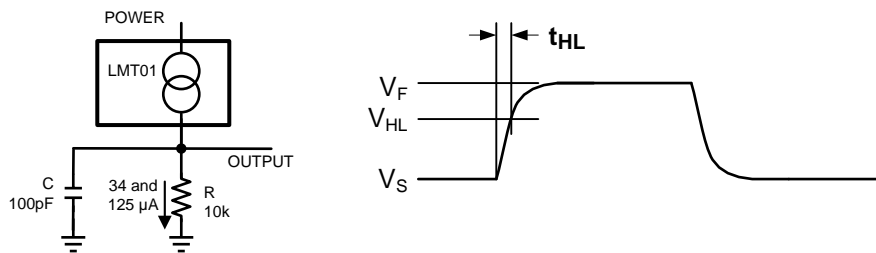

Figure 19. Simple RC Model for Rise and Fall Times
Stray capacitance can be introduced when connecting the LMT01-Q1 through a long wire. This stray capacitance will influence the signal rise and fall times. The wire inductance has negligible effect on the AC signal integrity. A simple RC time constant model as shown in *Figure 19* can be used to determine the rise and fall times.
- RC as shown in *Figure 19*